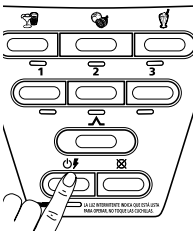

Fig. 19
- Press the ⚡ (Fig. 19) power button to turn the product on. The power light will blink, meaning the product is active and ready to use.
- Press the ⚡ (Fig. 19) power button to turn the product off.